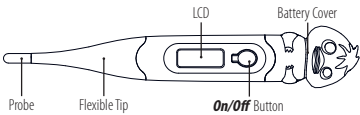

Figure 1: Digital thermometer components
- Press the *On/Off* Button next to LCD display in Figure 1. A tone will sound as the screen shows **188.8** °C, followed by last recorded temperature. After showing the self-test temperature, the thermometer is now in the testing mode.